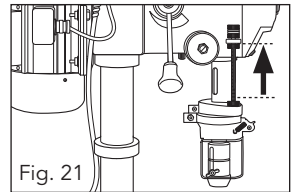

Fig. 21
2. Lock the spindle in the lowered position by increasing the height of the bottom depth stop screw (26) (Fig. 21). This will maximize access to the drill chuck (Fig. 21).